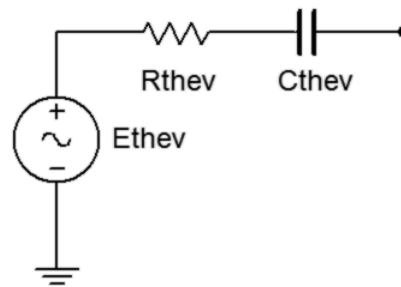

Figure 11.2
5. Using the decade resistance box and capacitor, build the Thevenin equivalent circuit of figure 11.2 and apply the $1\ \text{k}\Omega$ load resistor. Measure the load voltage and record in Table 11.1. Compare with the values of the original (non-Thevenized) circuit and determine the deviation between the original and Thevenized circuits.